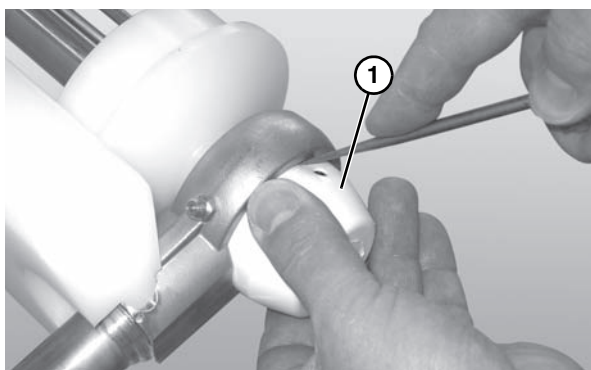

Figure 72
3. Remove the bearing cover (Figure 72, item 1).